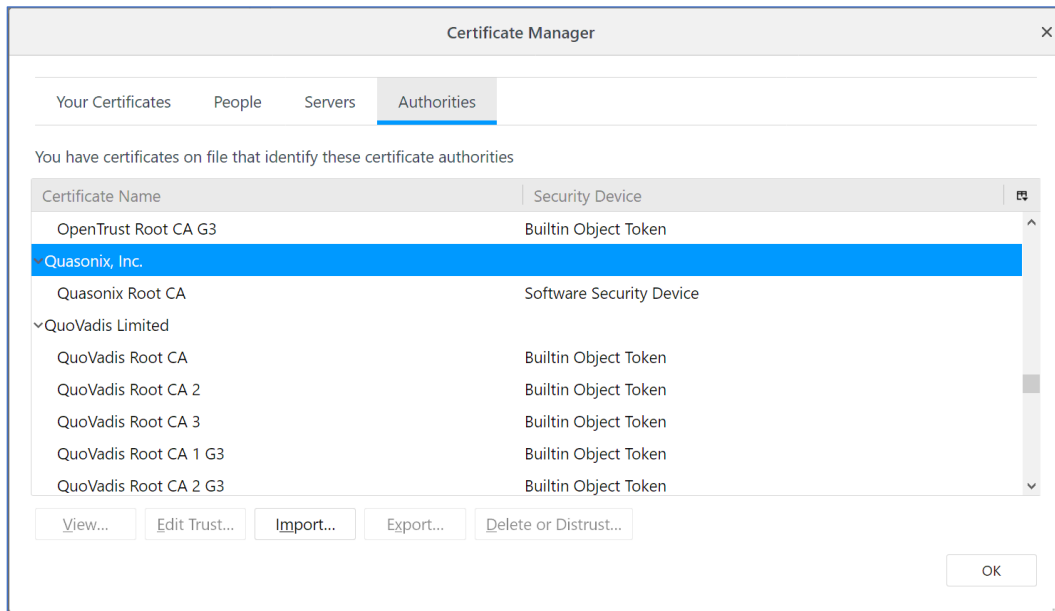

Figure 335: Firefox Certificate Manager with Quasonix Root CA Added
10. Scroll through the Certificate Names in the Authorities tab of the Certificate Manager to ensure "Quasonix, Inc." is in the list, as shown in Figure 335.